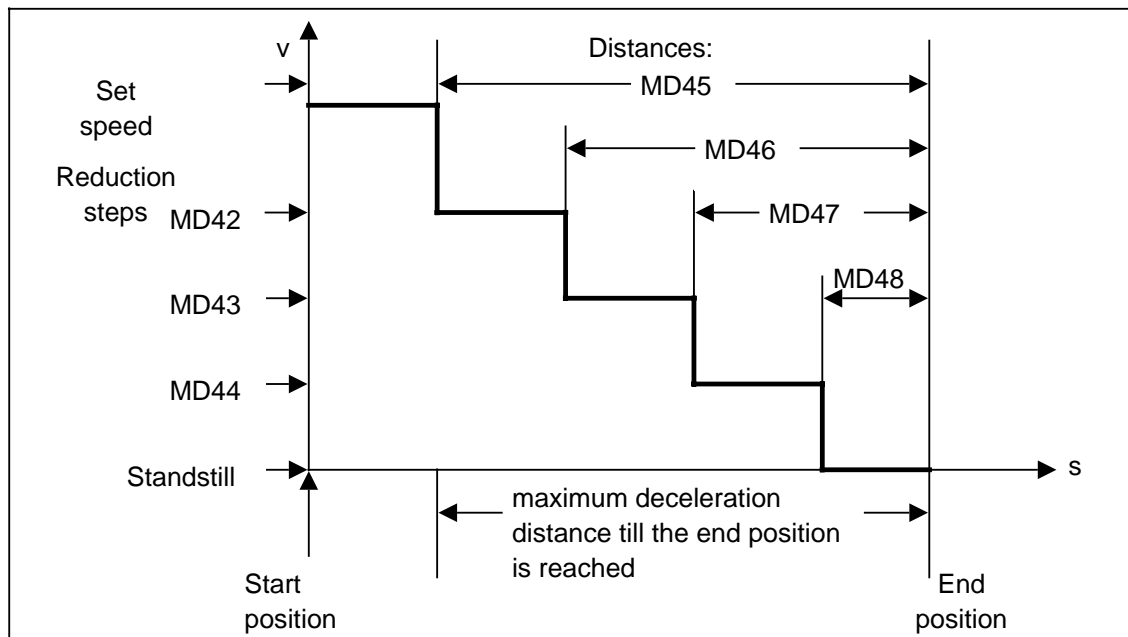

Figure 6.4 Command value output for the positioning.
The setting of the encoder type, incremental or absolute, is done by means of commissioning data (MD) 4. The axis control with reduction steps is available as a version with **three** reduction steps and corresponding **four** deceleration distances. The speed command values which will be output during positioning are shown in figure 6.4.
If the following error is less or equal to the value entered in MD45, the speed reduction procedure (deceleration) will begin. The reduction speed, as set in MD42, will be output (see also figure 6.4, command value output for the positioning). The difference between actual position and set position will begin to decrease slower as a result of the slower speed due to the reduction step active. As soon as the difference becomes less than the values of MD46 or MD47 the corresponding reduction step of MD43 or MD44 becomes effective.